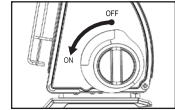

Fig. 2
2. Before use, make sure that the rotary switch is in the "OFF" position, otherwise the gas cartridge cannot be fitted [Fig. 2].